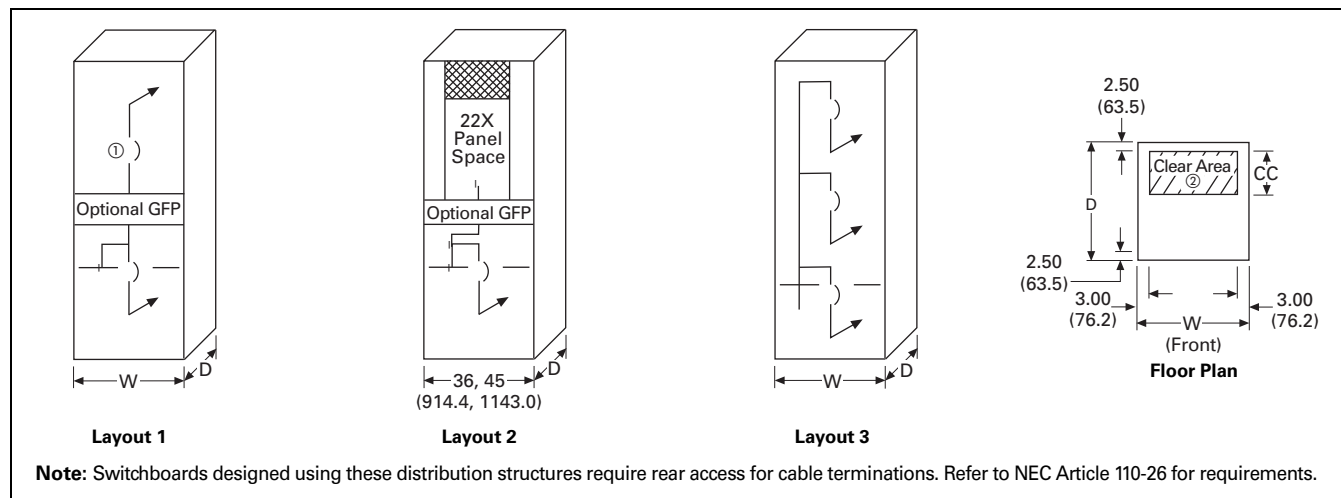

Figure 21.2-7. Individually Mounted Feeder Layouts—Dimensions in Inches (mm)
- ① When using top-mounted (bottom feed) inverted bolted switches, verify acceptance with code authorities.
② For **Layout 2**, width will be 36.00 or 45.00 inches (914.4 or 1143.0 mm) depending on size of panel mounting devices. Refer to **Page 21.2-12**.
Table 21.2-6. Stacked Distribution Structure Sizes for Figure 21.2-7 Layouts 1 and 2—Dimensions in Inches (mm) ③
Table 21.2-7. Stacked Distribution Structure Sizes for Figure 21.2-7 Layout 3 Only—Dimensions in Inches (mm)
Table 21.2-8. Stacked Distribution Structure Sizes for Figure 21.2-7
Table 21.2-9. Stacked Distribution Structure Sizes for Figure 21.2-7